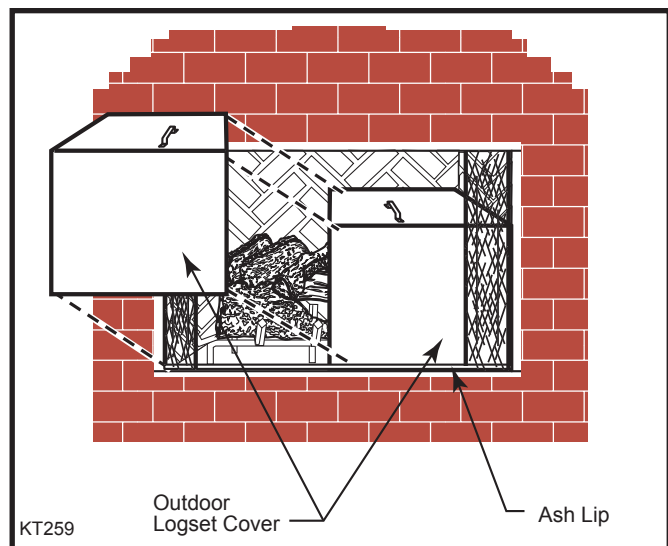

Fig. 15 Place log set cover over logs behind screens in outdoor fireplace.
2. Place the second half of the cover in the same manner, overlapping the first half. (Fig. 15)